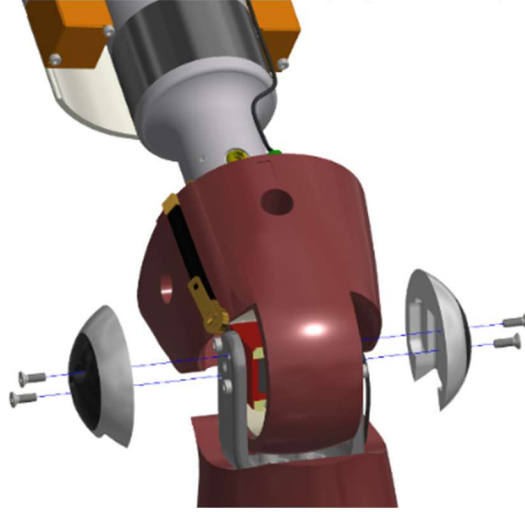

Figure 10-70. Attach the Left and Right Knee Covers (474-5301-1,2-A) using four M4 X 0.7 X 12 LG. FHCS
- 10.4.2 Install the Knee Covers (474-5301-1,2-A) on both sides of the knee with two M4 X 0.7 X 12 LG. FHCS per side (Figure 10-70).